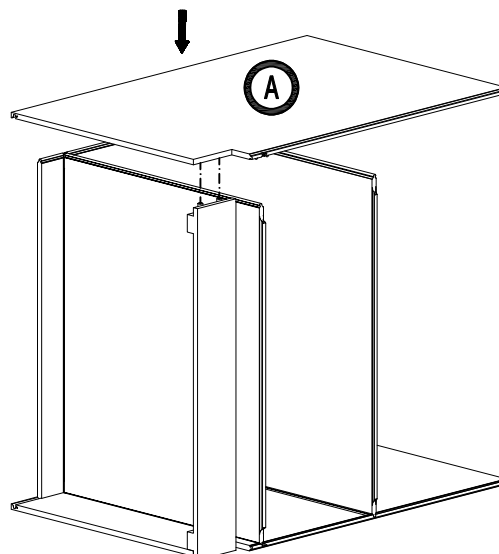

Figure 3
3. Installing the side panel: Insert the side panel (A) into grooves of back panel (B) & bottom (C) toe kick (D) and top panel (F). Press down until they click into place. (Figure 3)